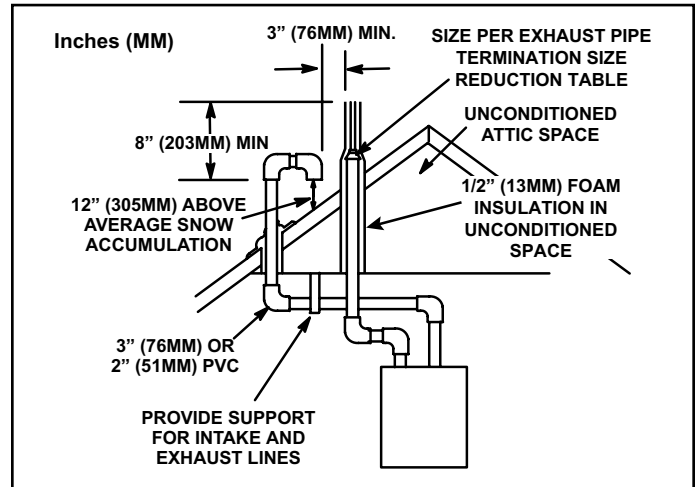

Figure 31. Direct Vent Roof Termination Kit 15F75 or 44J41
Intake and exhaust pipes may be routed either horizontally through an outside wall or vertically through the roof. In attic or closet installations, vertical termination through the roof is preferred. Figure 31 through Figure 38 show typical terminations.
- On roof terminations, the intake piping should terminate straight down using two 90° elbows (see Figure 31).